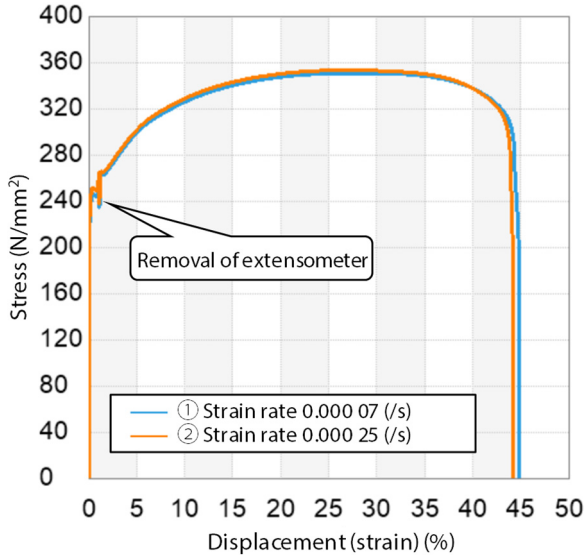

Fig. 5 Stress-Strain Curve
Table 4 shows the test results, and Fig. 5 shows the stress-strain curves. Close values were obtained in the measurements at the two test rates ① and ②.